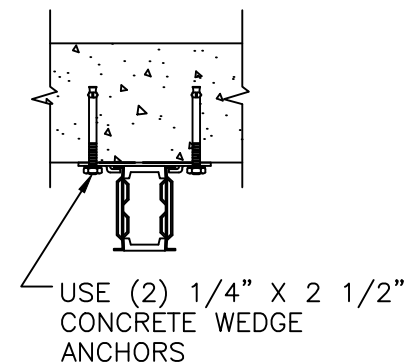

**FIGURE 3**
**END UPRITES**— Place Wall Mount Bracket over the lip of the Upright side channel. (See FIGURE 3).